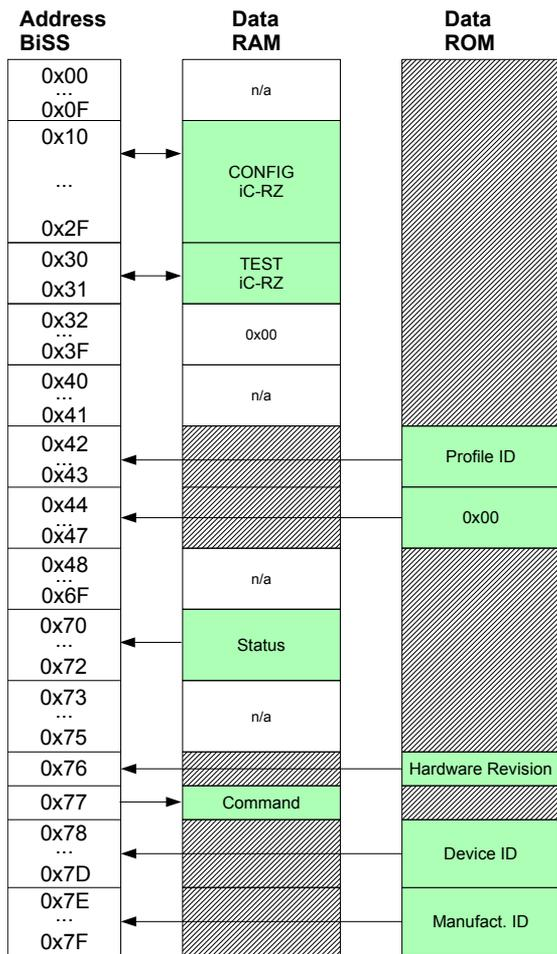

Figure 35: Control Channel: accessible registers
Figure 35 summarizes the accessible registers of the Control Channel using the BiSS protocol. For the configuration parameters of the Control Channel refer to chapter REGISTER MAP (CC).